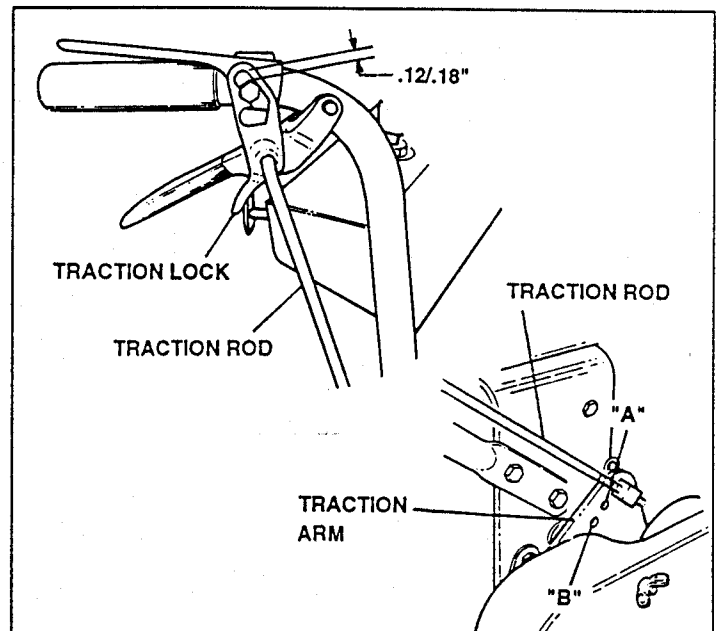

FIGURE 26
5. Insert Swivel into Traction Arm and secure with Hair Pin. Repeat for both sides. Traction Wheel Brakes may need to be readjusted after Traction Rod adjustment. See Figure 26.